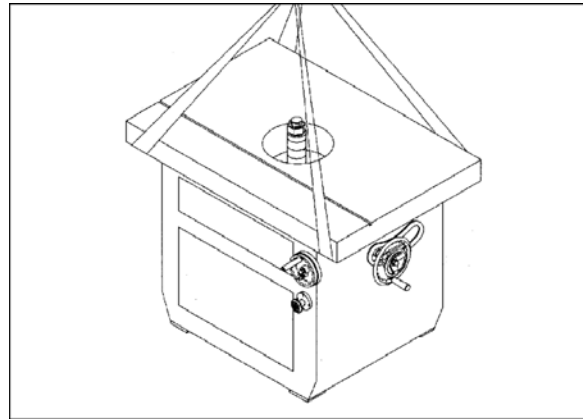
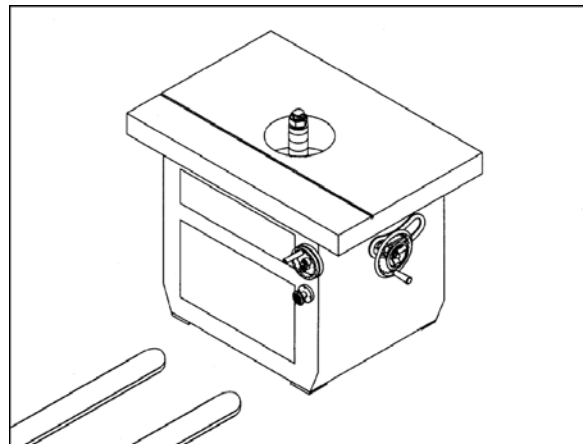

Figure 1
Figure 2
3. The shaper can be lifted by a crane with hoist (Figure 1), or by a forklift (Figure 2), either of which should be capable of lifting one ton. Remove the skid from under the shaper.